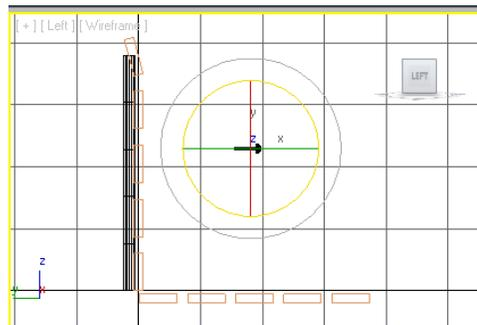

Figure 2-69 Rotating *rivet001* in the Left viewport
- In the **Offset:Screen** area of the **Rotate Transform Type-In** dialog box, enter **-90** in the **Z** spinner and press ENTER; *rivet001* gets rotated, as shown in Figure 2-69. Now, close the **Rotate Transform Type-In** dialog box.